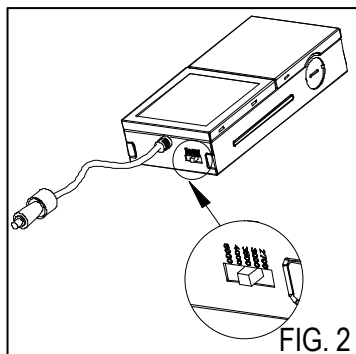

FIG. 2
2. Use the toggle switch to select your desired lamp color temperature, 2700K/3000K/3500K /4000K/5000K. (Fig.2)